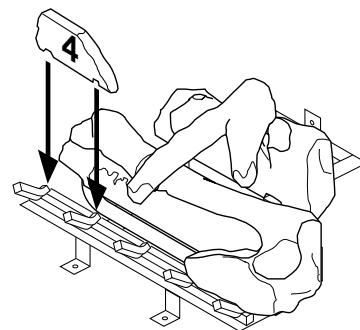

Figure 53 - Installing Log No. 4
4. Place log #4 (small log) onto the front left part of the grate making sure the notches fit over the prong of the grate. See Figure 53.